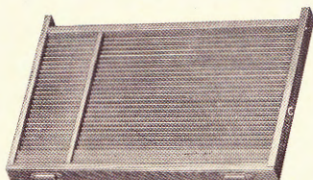

Fig. 39—Case for strips and off-cuts of brass rules and leads. The partitions are spaced to keep this material on edge, the brass rules face up.
This is a Four-in-One Cabinet. (1) *As a Work Bench* it is large enough for 2 men to work side by side, using the miterer and rule and lead cutter, and yet not so large as to prevent its being placed conveniently central to a group of users, as shown in fig. 7, page 1025. There is a bank in rear for carrying composing sticks, when materials are being cut to measure, or live materials cut or waiting to be cut. There is a removable steel scrap pan into which the waste may be swept. There is a case (fig. 39) for carrying full length strip and off-cut rules and leads, all kept on edge, with rules face up.